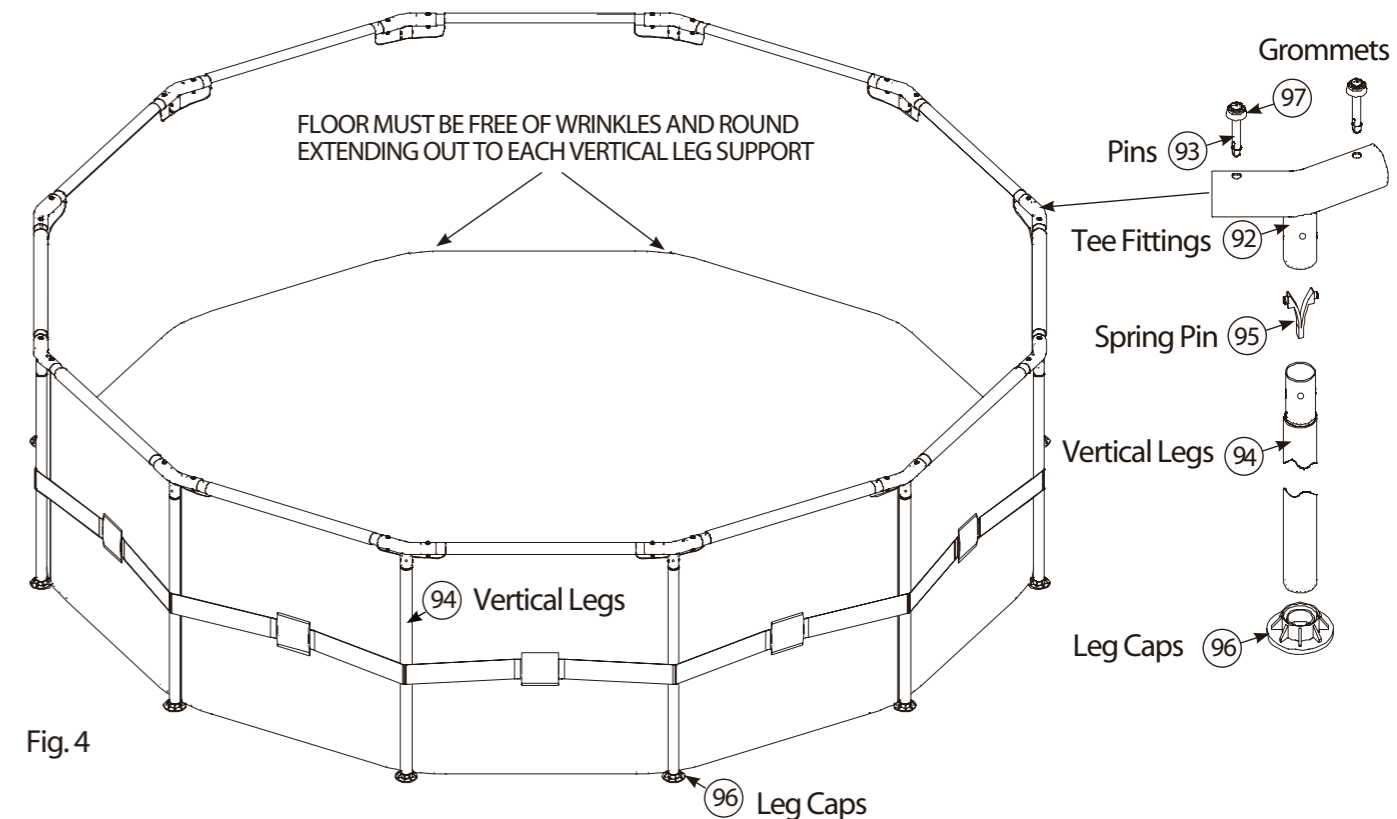

Fig. 4
- (h) Once the top frame is assembled, locate the vertical legs (94). The vertical leg sections will have a spring pin (95) pre-installed at the top end. First, insert the leg down through the belt that runs around the middle of the pool, see Fig. 4. Now, to connect them into the top frame, push the buttons in as you insert the leg up into the tee fitting. Look through the hole in the fitting as you insert and rotate the pipe until the buttons align with the holes and pop out, locking the leg in place. Finally, take one of the leg caps (96) and insert the bottom of the vertical leg into it until it stops.
- (j) Make sure the drain fitting is plugged securely and the cap is in place. Start filling the pool with water. After about 1-inch of water is on the bottom, stop filling and smooth wrinkles out of the bottom of the pool making sure the bottom of the pool is flat and round equally in all directions. See Fig. 4.